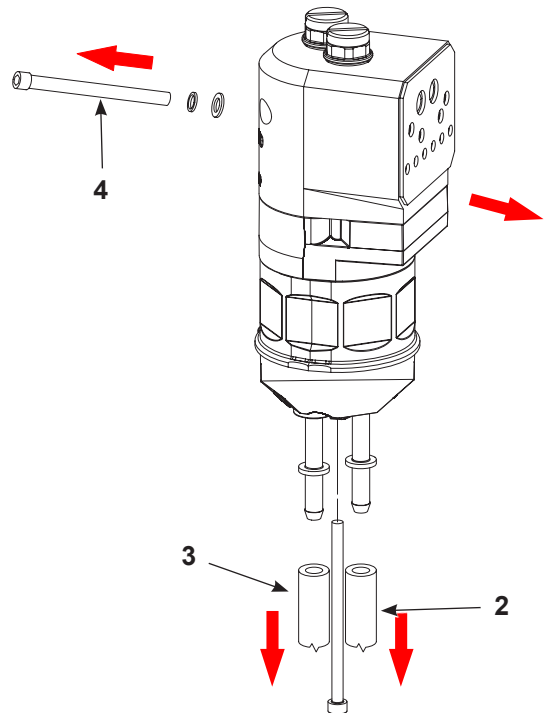
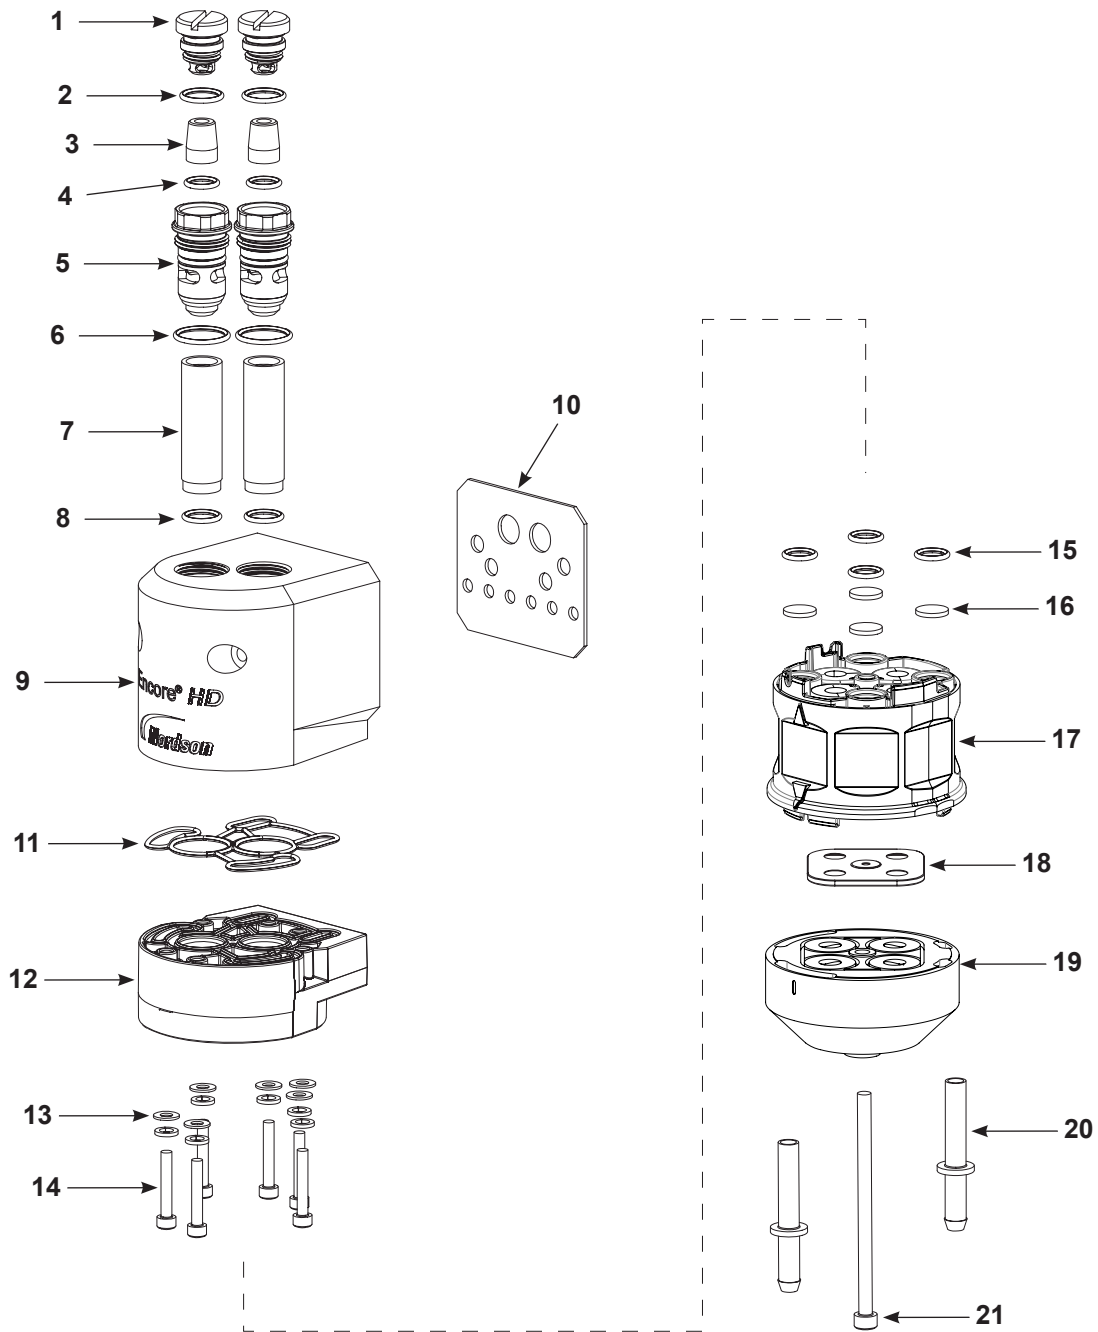

Figure 20 Standard Pump Disassemble Preparation
Figure 21 Pump Disassembly (Encore HD Shown)
NOTE: Any time the pump is disassembled, the Y block gasket (item 19 in Figure 20) must be replaced.
2. See Figure 20. Disconnect the inlet (2) and outlet powder tubing (3) from the bottom of the pump.
3. Remove the cabinet mounting hardware securing the pump to the pump panel (4) and move the pump to a clean work surface.
4. See Figure 21. Starting with the fluidizing tubes, disassemble the pump as shown. Gaskets that are glued on do not need to be removed unless they are damaged. Refer to *Replacing Pump Gasket* in the *Repair* section if replacement is needed.